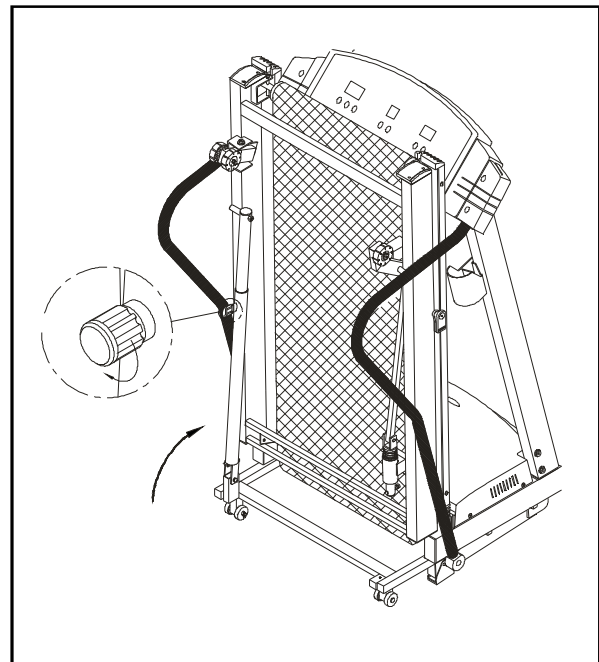

Fig.12
2. Lift the end of the treadmill bed to fold into its upright position, locate the locking nut below the running deck, turning the knob clockwise to secure (see Fig. 12).